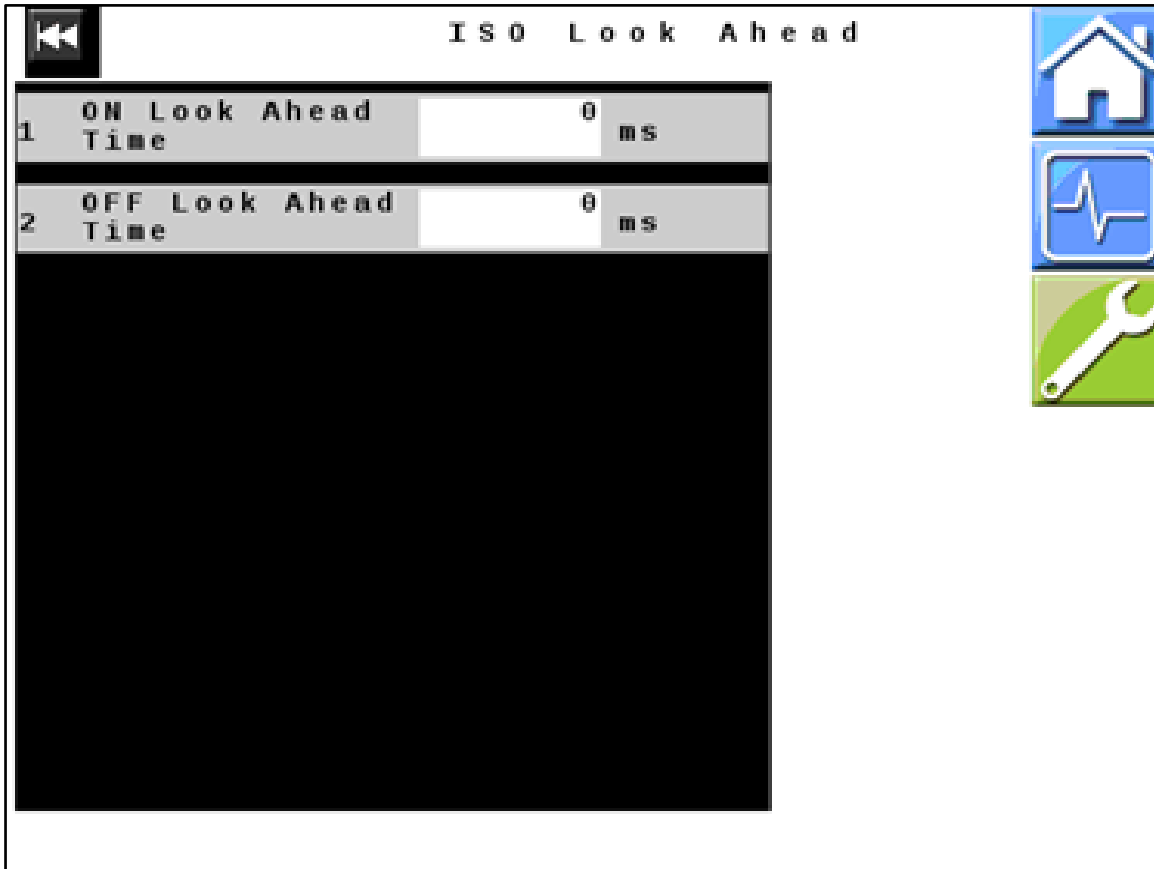

Figure 24 — ISO Look Ahead
44. *Figure 24:* Verify that all values displayed on your unit match those shown here. Change values if necessary.